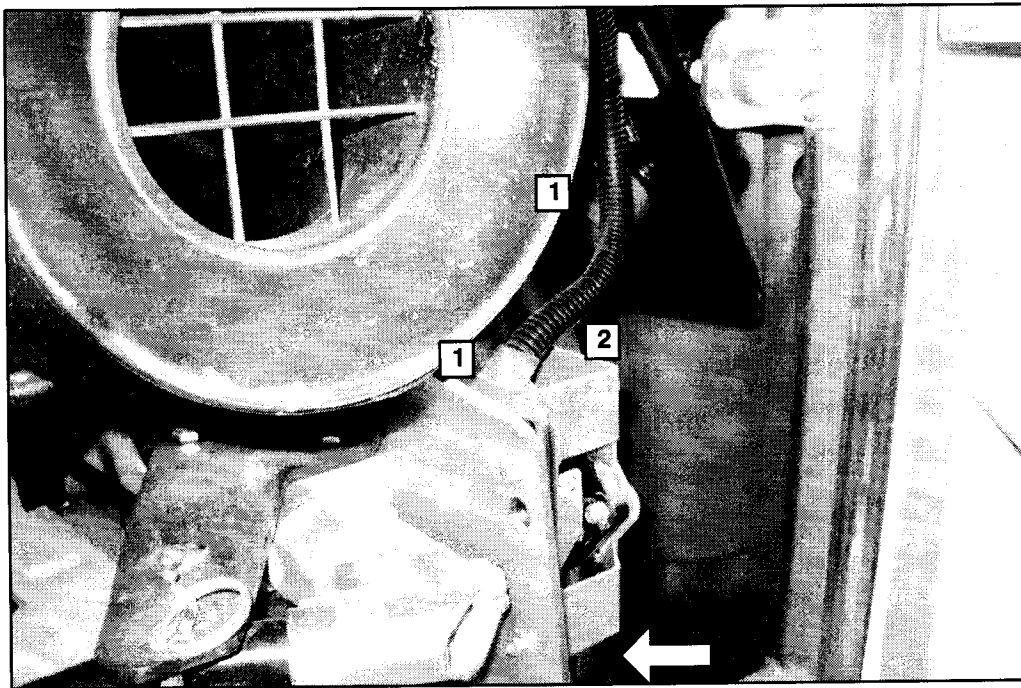

Figure 6. Reference photo of rear, side service compartment
ITEM	FIGURE 6 DESCRIPTION
10. In the rear, side service compartment, remove the red protective boot from the three (3) wheelchair lift electrical terminals and apply high tack sealant to the terminals (refer to Figure 6).
11. Install the edge molding, p/n 24-51-0050, on the upper bracket edge (below the loom routing) as shown in Figure 6.